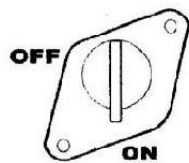

Figure 6- Fuel Valve in the "on" position
3. Turn the fuel valve to the "ON" position (see *figure 6*).